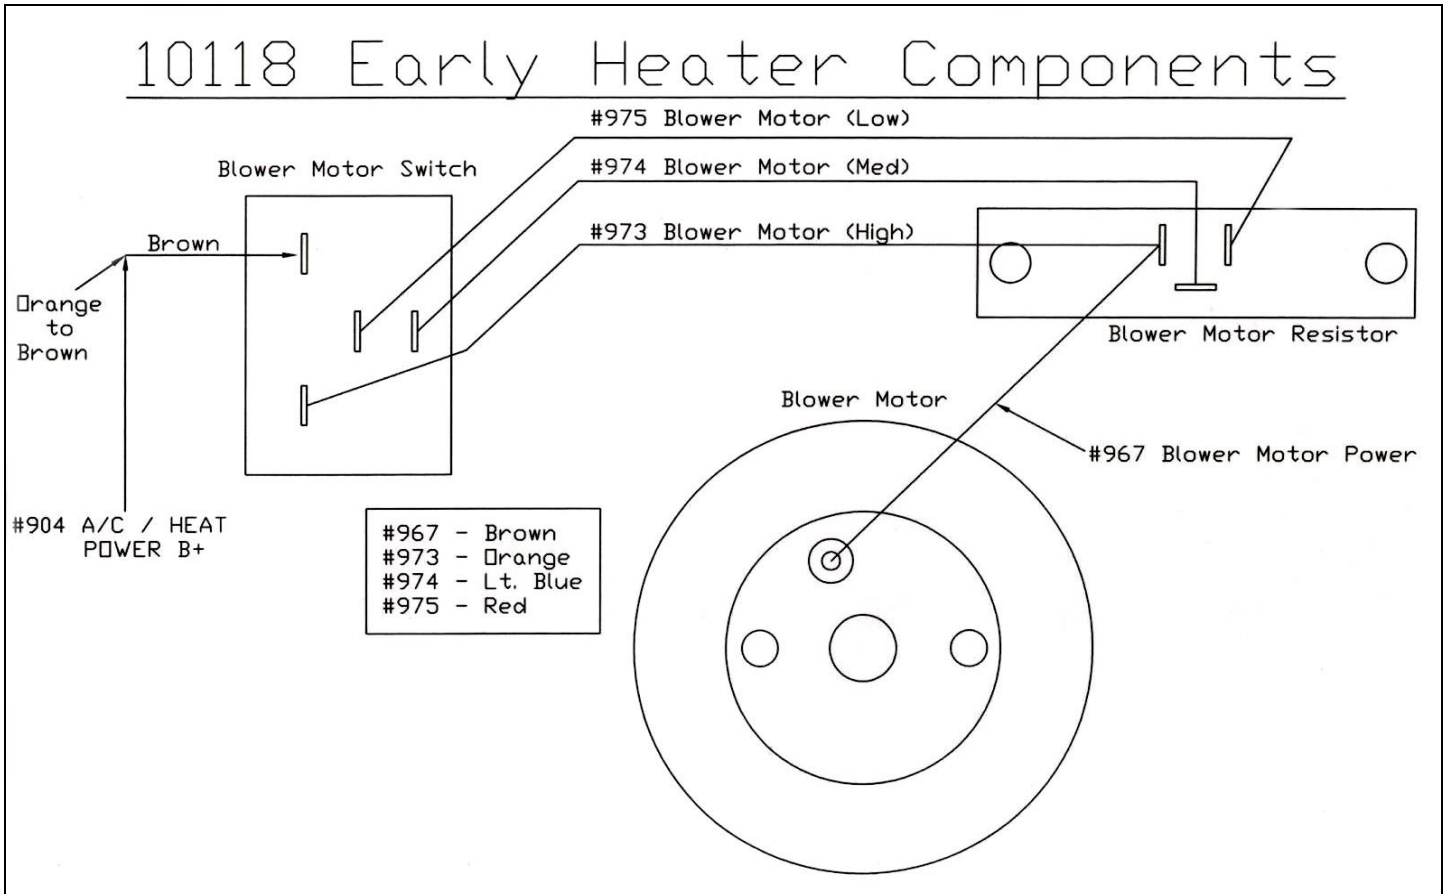

Figure 7-28 Heater Harness Installation for 1967-1972 years only.
- 7.13.1** On 1967-1972 Models only, feed both the passenger's side and drivers side door jamb switch wires #945 Black/Blue and #971 Green/Yellow over to each windshield pillar. Using four red butt connectors from the parts kit connect each wire to its appropriate door jamb switch wires. The colors of these wires may match, but they are not polarity specific. **See Figure 7-27 for '67-'72 models and Figure 7-28 for '73-'77 models.**
7.14.1 For all 1967-1972 Ford Trucks with a factory heater and no Air Conditioning, locate the Heater Harness in the parts kit and install as shown below in **Figure 7-28**.